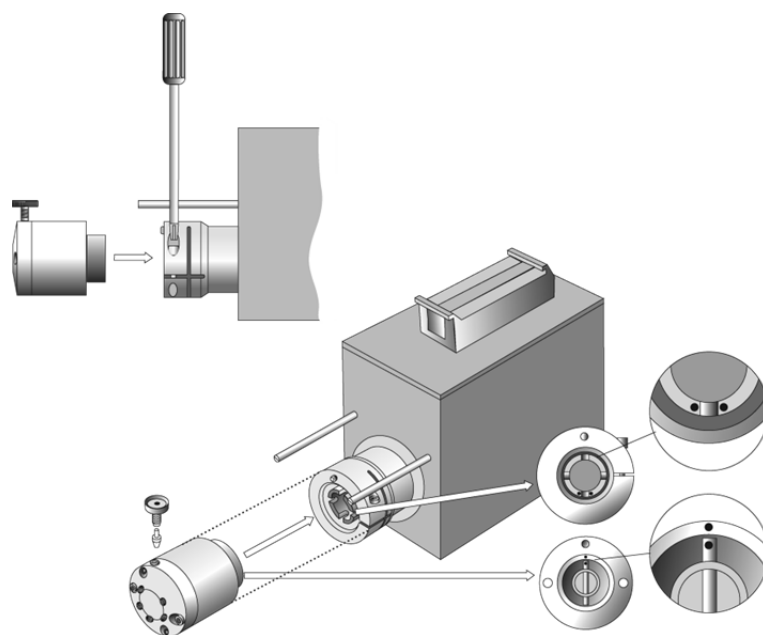

Figure 58. Replacing the Injection Valve VICI/Valco Cheminert Type
To replace and/or clean the injection valve, Cheminert type, follow the steps shown in Figure 58.
3. Check that the valve guide pin remains at its position and observe the guide marks as shown in Figure 58;